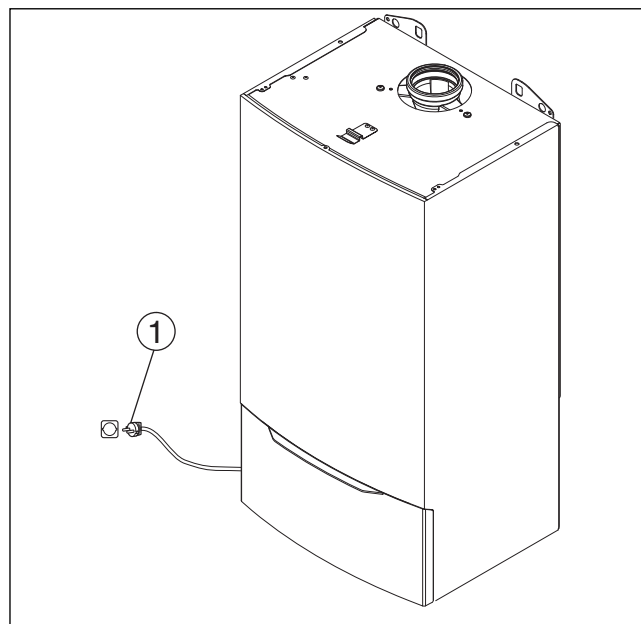

Fig. 43 Plugging in the power plug
- Insert plug (→ Fig. 43, [1]) of the main power cord into an electrical outlet.